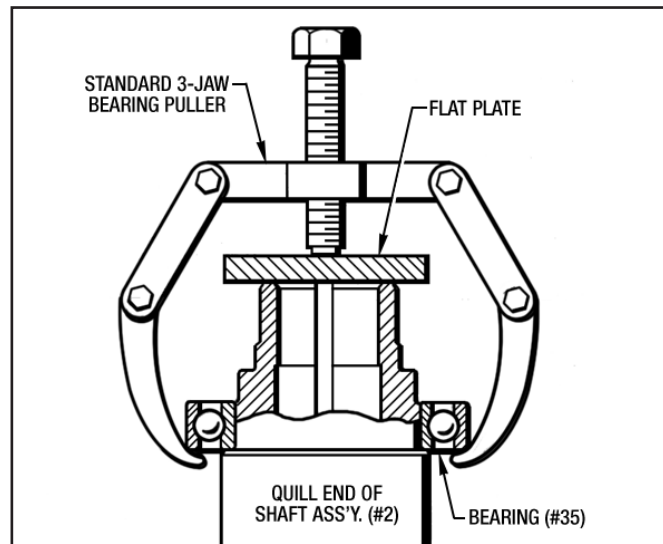

Figure 7.4 - Removing Bearing (#35)
6. Pull the Bearing (#35) off the Shaft Assembly (#2) with a standard 3-Jaw Bearing Puller and flat plate as shown in Figure 7.4.